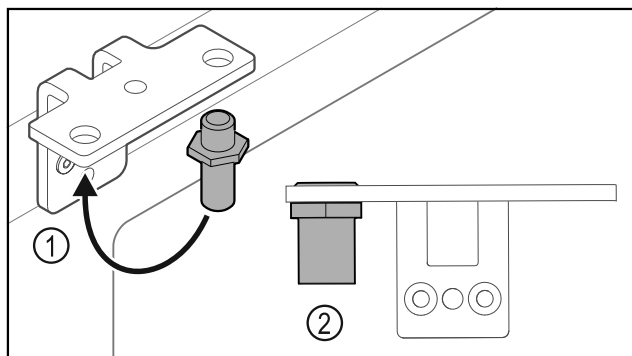

Fig. 26
- Put the pin back into the hinge Fig. 26 (1).
- Tighten the pin Fig. 26 (2) to a **torque of 12 Nm**.